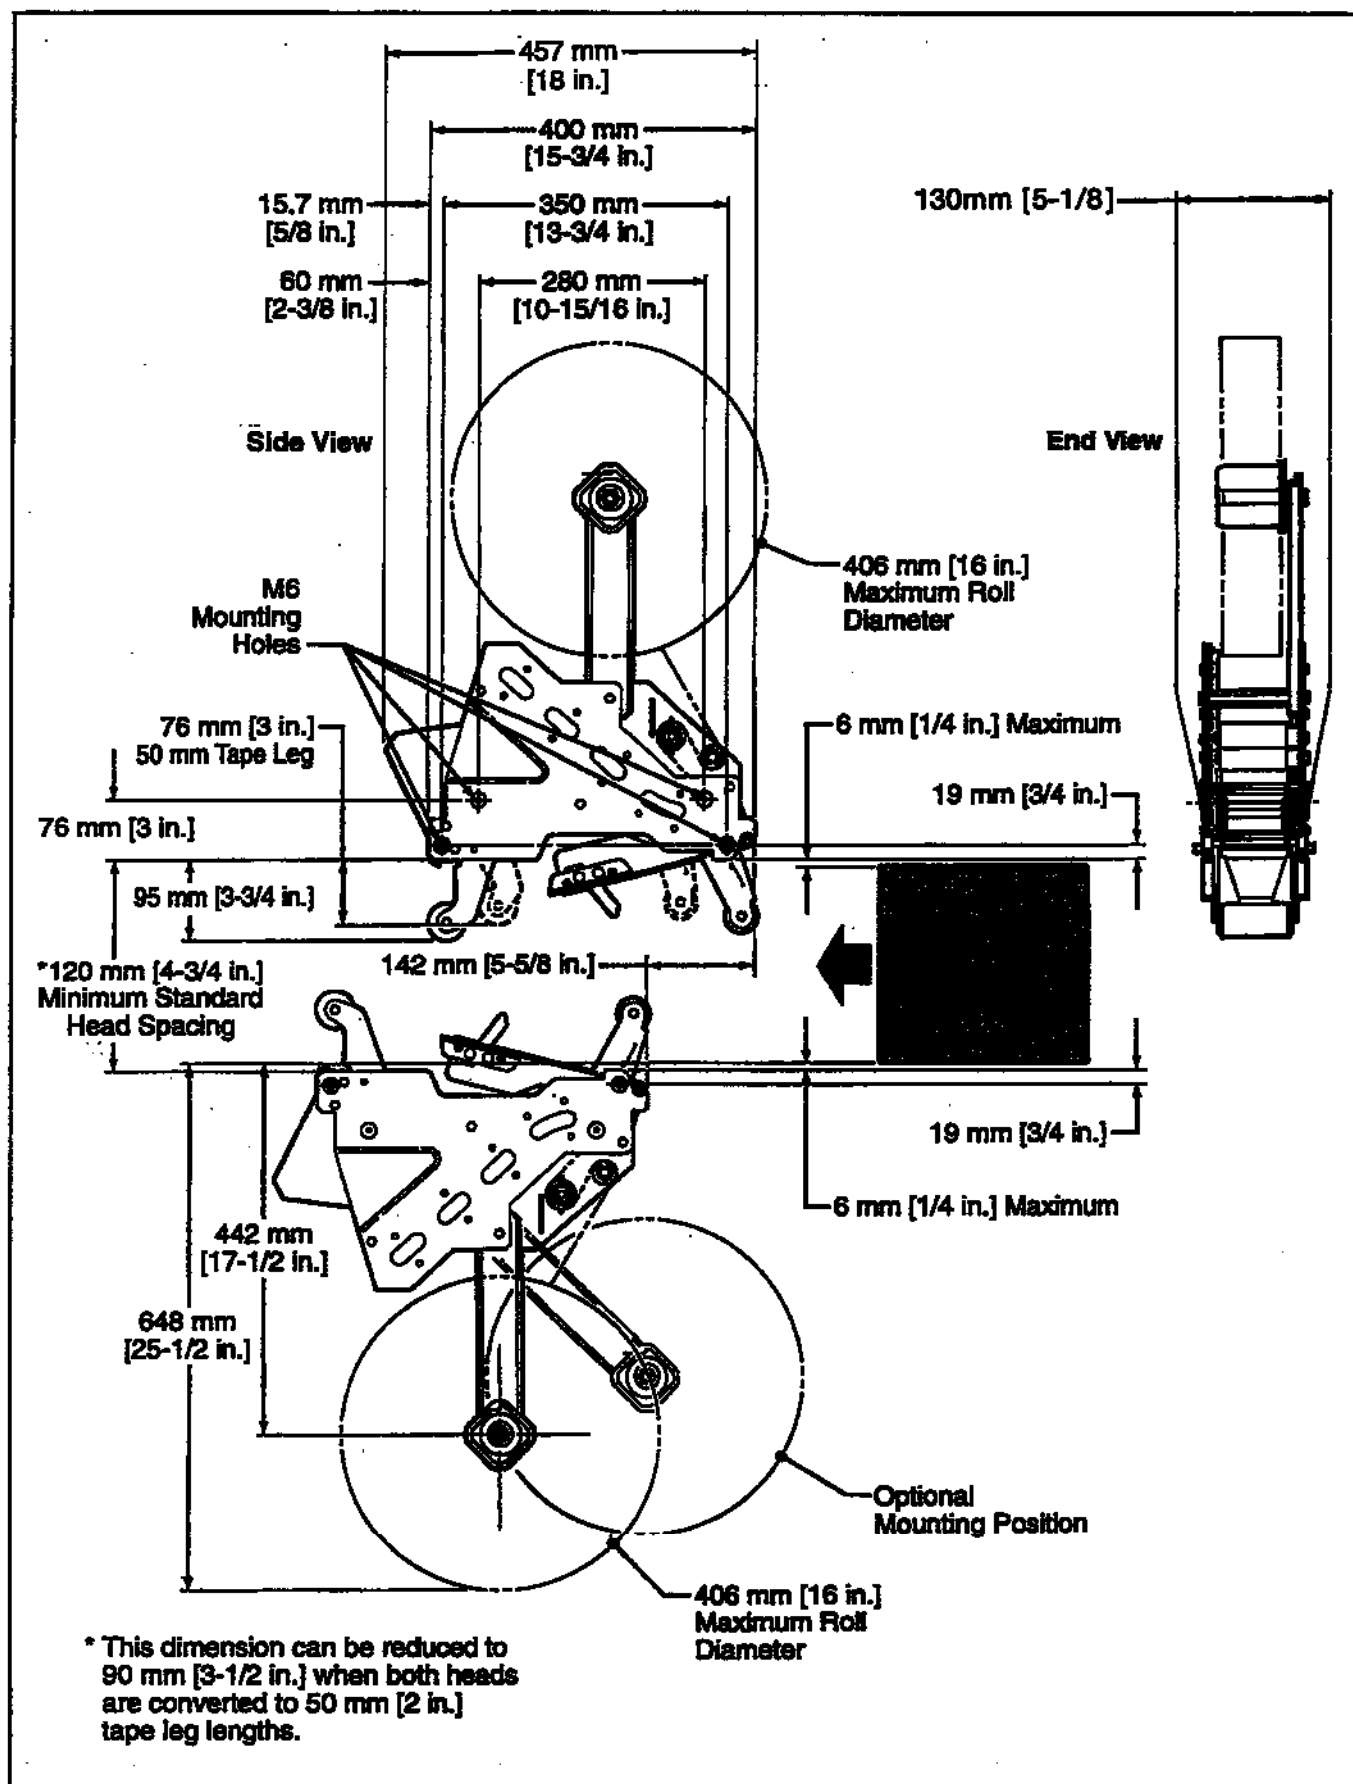

Figure 2-1 – Dimensional Drawing
The taping head assembly can be used in converting existing or in custom made machinery. It can be mounted for top taping or bottom taping. Refer to box size specifications on page 3, and Figure 2-1 on page 4, for the following points in making such installations:
3. Figure 2-1 illustrates the typical mounting relationship for opposing taping head assemblies to allow taping of box heights down to 90 mm [3-1/2 inches]. To tape box heights down to 70 mm [2-3/4 inches], the taping heads must be completely staggered so only one tape seal is being applied at one time.